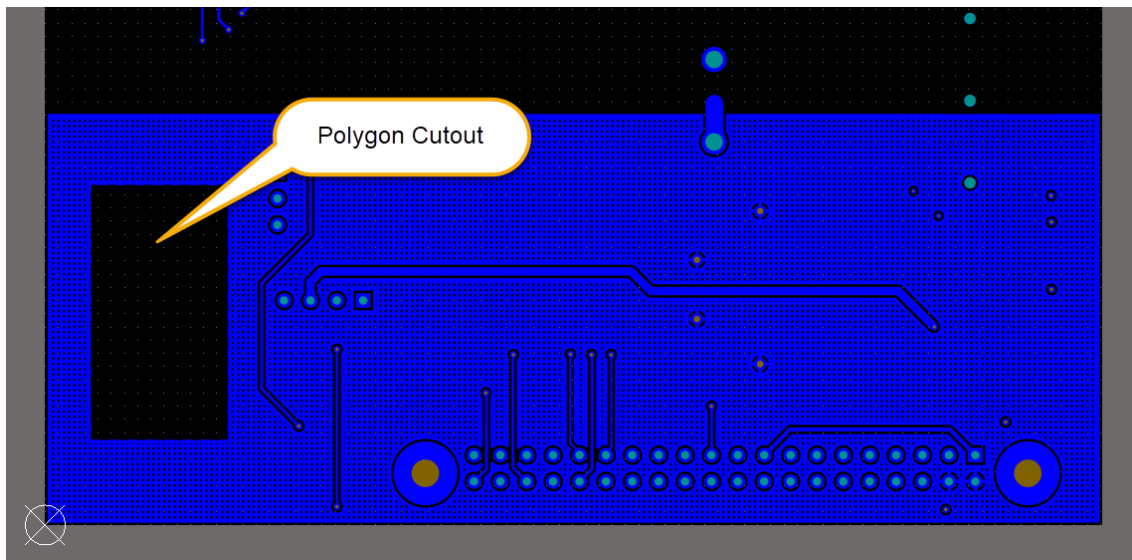

Figure 8. Polygon Pour Cutout
- Using Figure 8 as a reference, draw a rectangular **Polygon Pour Cutout** on the left side of the polygon that we just created.